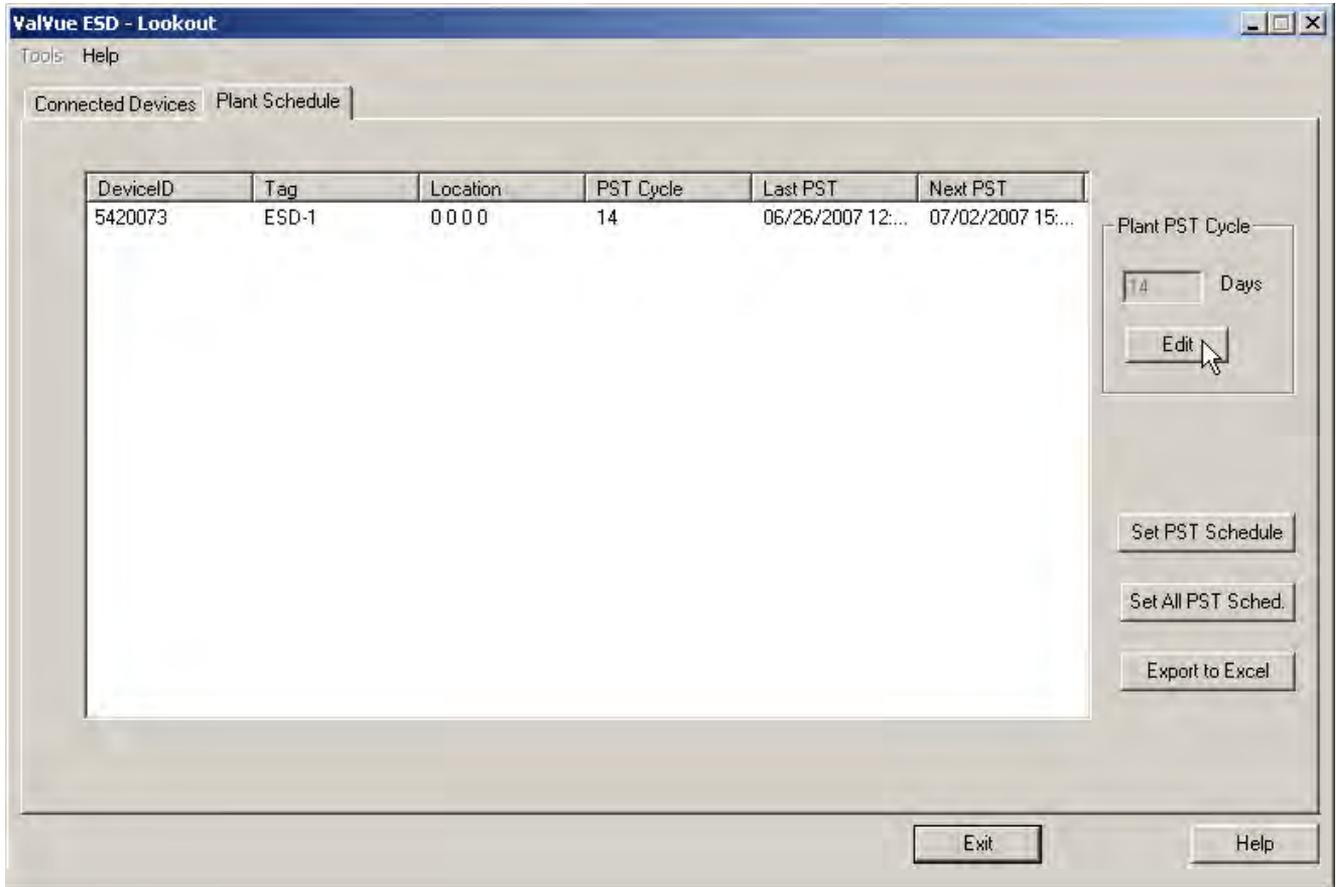

Figure 39 Accessing Edit Function
1. Click **Edit** (Figure 39).